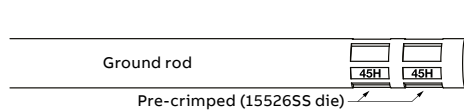

Figure 1
**IMPORTANT:** For 54865-CKN only. To be in compliance with IEEE837-2014, the ground rod should be pre-crimped with die 15526SS (45H) as shown in Figure 1.